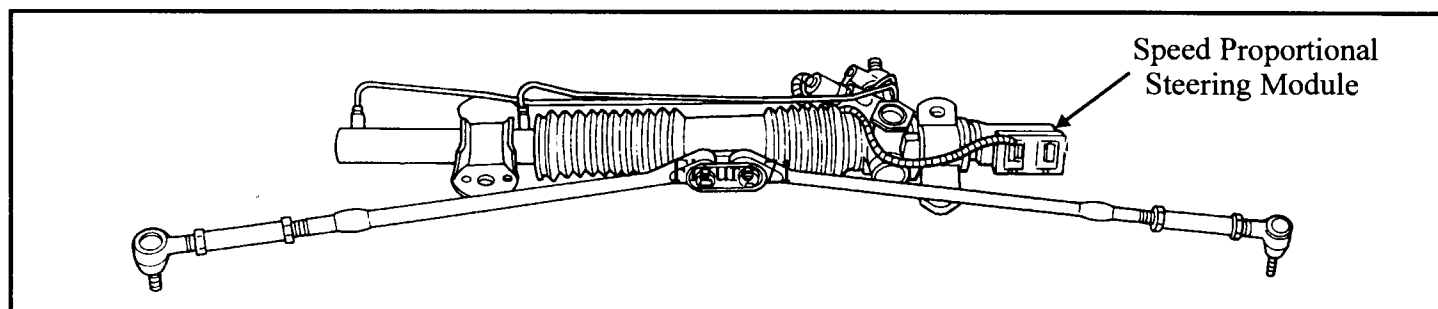

Figure 80
- Locate the Speed Proportional Steering Module on the steering rack as shown in Figure 80 and unplug it. Terminal 1 is battery feed from the ignition switch through either fuse 6 or 20. If battery voltage is not seen with the ignition ON, repair or replace fuse, ignition switch or severed wire. If voltage is seen go to the next step.